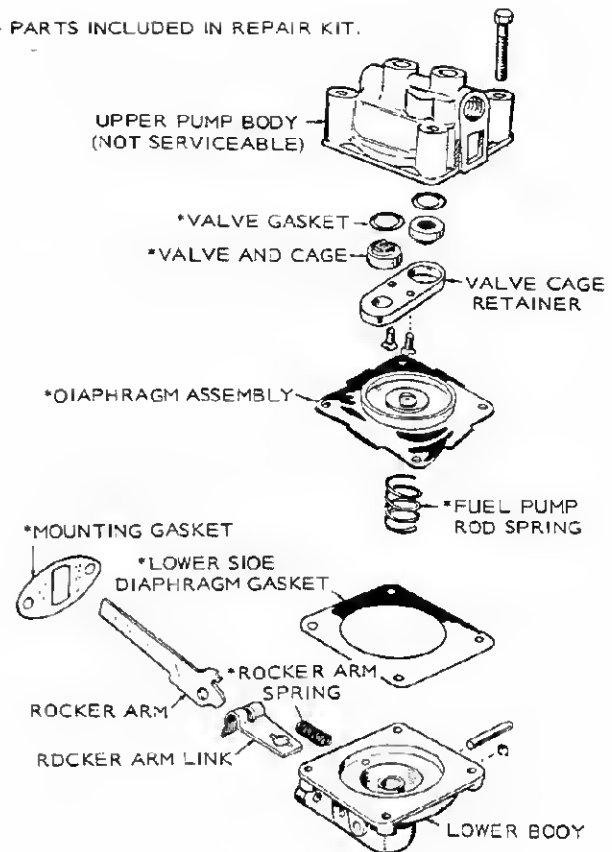

FIGURE 6c. FUEL PUMP ASSEMBLY
1. Remove fuel lines and mounting screws holding pump to engine, Figure 6c.